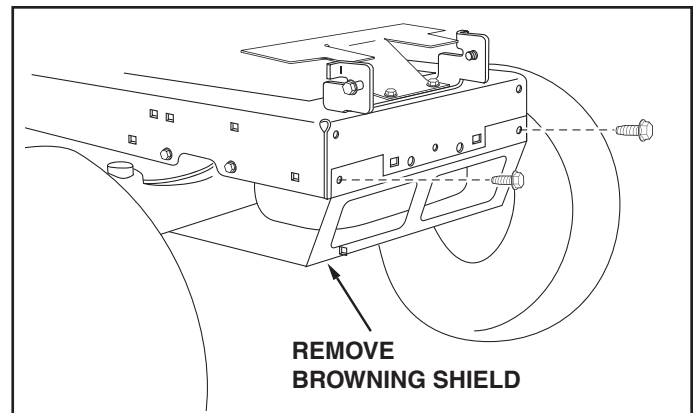
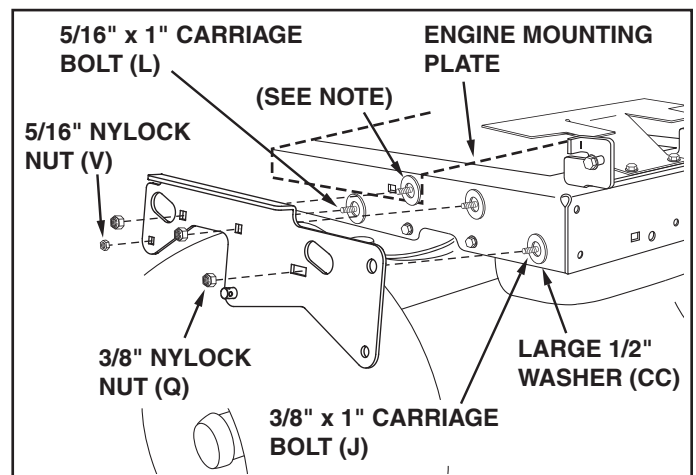

FIGURE 2
FIGURE 3
STEP 2: (SEE FIGURE 2)
STEP 3: (SEE FIGURE 3)
- Fasten the R.H. Side Plate (bend facing out) to the front three holes in the tractor frame using three 3/8" x 1" carriage bolts (J), three large 1/2" washers (CC) (see note) and three 3/8" nylock nuts (Q). For the rear hole, use a 5/16" x 1" carriage bolt (L), a large 1/2" washer (CC) and a 5/16" nylock nut (V). Place the 1/2" washers (V) between the tractor frame and the side plate. Tighten all bolts. Repeat for L.H. side plate.
- Reinstall the browning shield removed in figure 2.